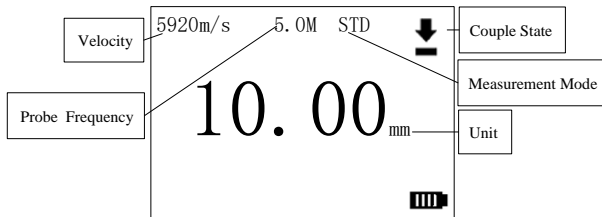

Fig. 2-3: Standard Measurement GUI
- **STEP 2:** Power on the gauge by pressing . The ON GUI and measuring GUI will appear in turn (initial setup as shown in Figure 2-3). The gauge will auto-recover the setup from the previous use.